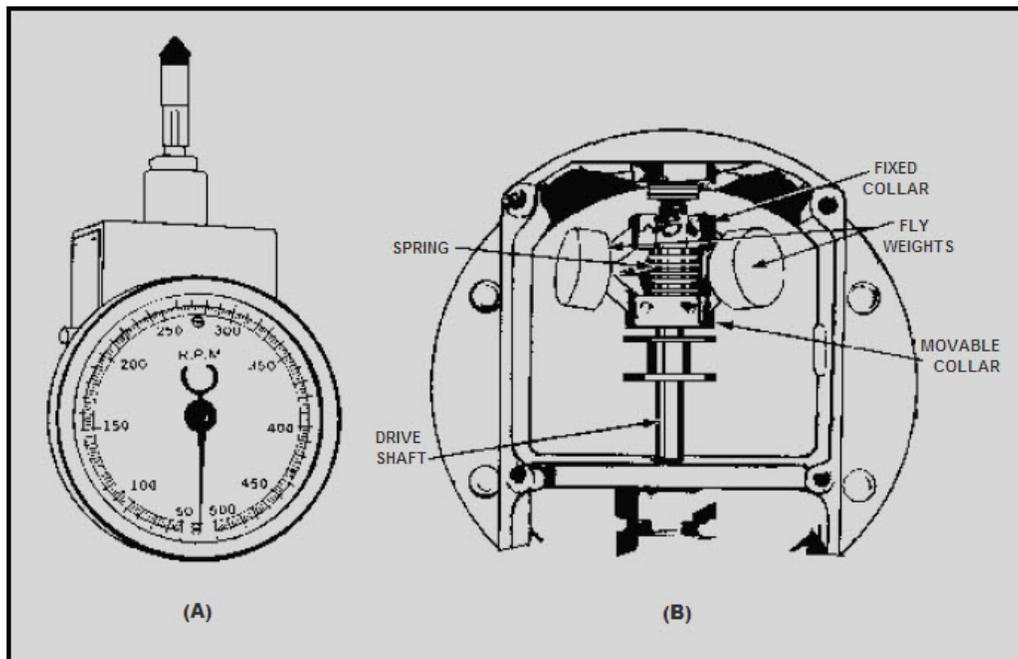

Figure 2-5 Centrifugal tachometer
**CENTRIFUGAL TACHOMETER** - A centrifugal-type tachometer is illustrated in figure 2-5, view A. View B shows the internal arrangement of the centrifugal tachometer; refer to view B in this discussion. In the centrifugal tachometer, centrifugal force acts upon fly weights that are connected by links to upper and lower collars. The upper collar is affixed to a drive shaft; the lower collar is free to move up and down the shaft. A spring, which fits over the shaft, connects the upper and lower collars.